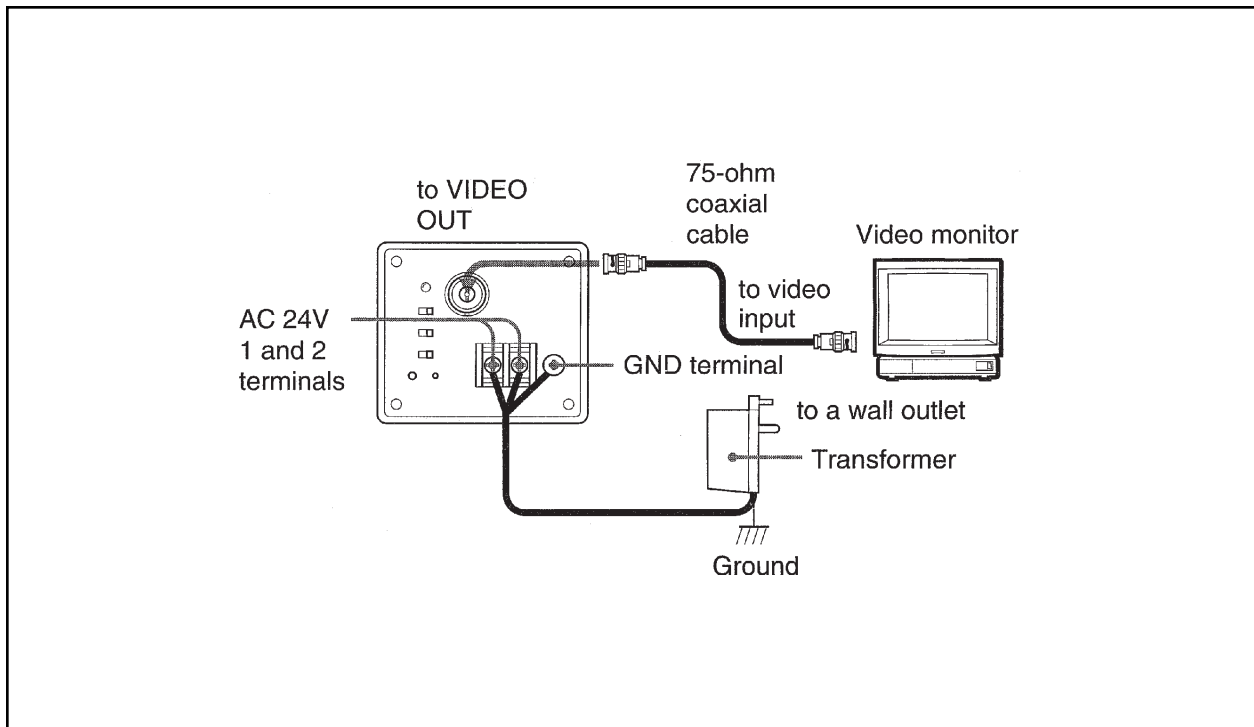

Figure 8. Power and Video Connections
8. Connect power to the camera (refer to Figure 8).
9. Connect a video cable to the VIDEO OUT connector on the camera (refer to Figure 8). Refer to Table B for the type of video coaxial cable to use.